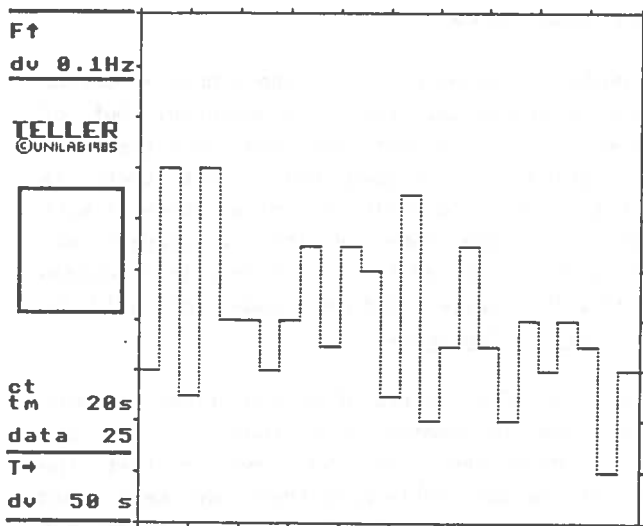

Fig.17
a) **count rate vs. time.** The user can select a time interval (1-100 s) over which, for example, a number of radioactive pulses are recorded and a count rate calculated. This rate is then displayed as large digits on screen. The recording process may be repeated 10-250 times and the final set of count rates displayed as a histogram (Fig.17), table or as large digits. Fig.17 shows the variation in background count rate over 25 20 s time periods. There is also the facility to automatically calculate the average count rate during the total period.